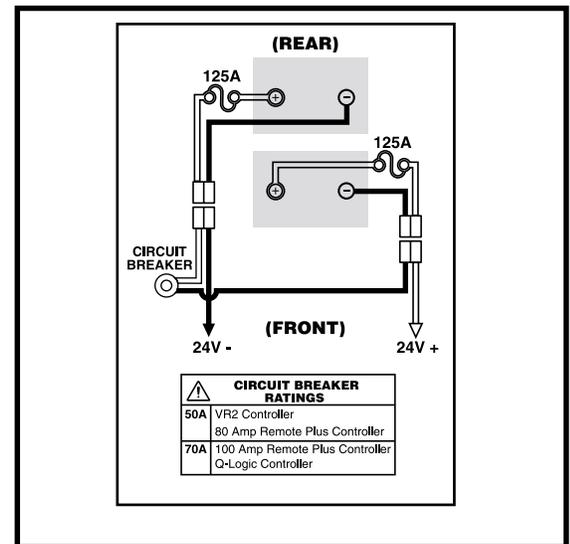

Figure 24. Battery Wiring Diagram
A battery wiring diagram is printed on a decal located on the battery door. See figure 24. Refer to the specifications table in “Appendix I - Specifications” for correct battery specifications.
5. Locate the battery quick disconnects on the frame and disconnect both of them. See figure 24.
10. Connect the battery quick disconnects according to the battery wiring diagram label located on the frame. See figure 24.